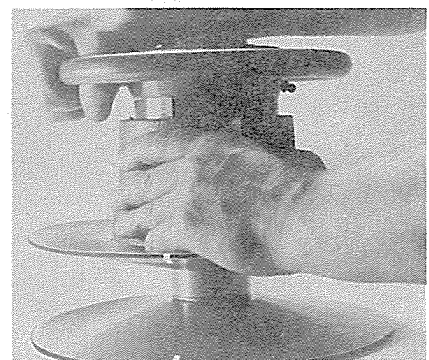

Figure 20
8. Insert the end of the torsion bar into its hole in the end cap and thread the handwheel hub assembly into the control hub (Figure 20). Turn the handwheel until the end cap is seated on the sleeve, and align capscrew holes.